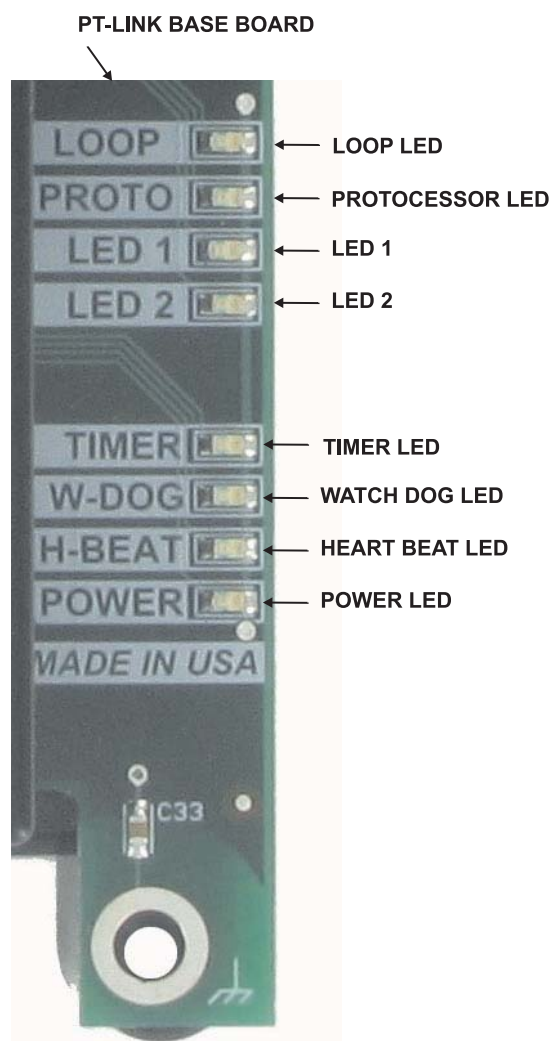

Figure 17: PT-Link II LON-3® LED Locations
The PT-Link II LON-3® is equipped with LEDs that can be used for troubleshooting. There are eight LEDs on the PT-Link board. See **Figure 17** for the locations of the LEDs on the PT-Link board. The LED descriptions and functions are listed in the following paragraphs.
3. Once the PT-Link is powered up, you should notice that the green RUN LED on the ProtoCessor Board is blinking continuously. See **Figure 17, page 12** for a diagram showing the location of the ProtoCessor RUN LED.